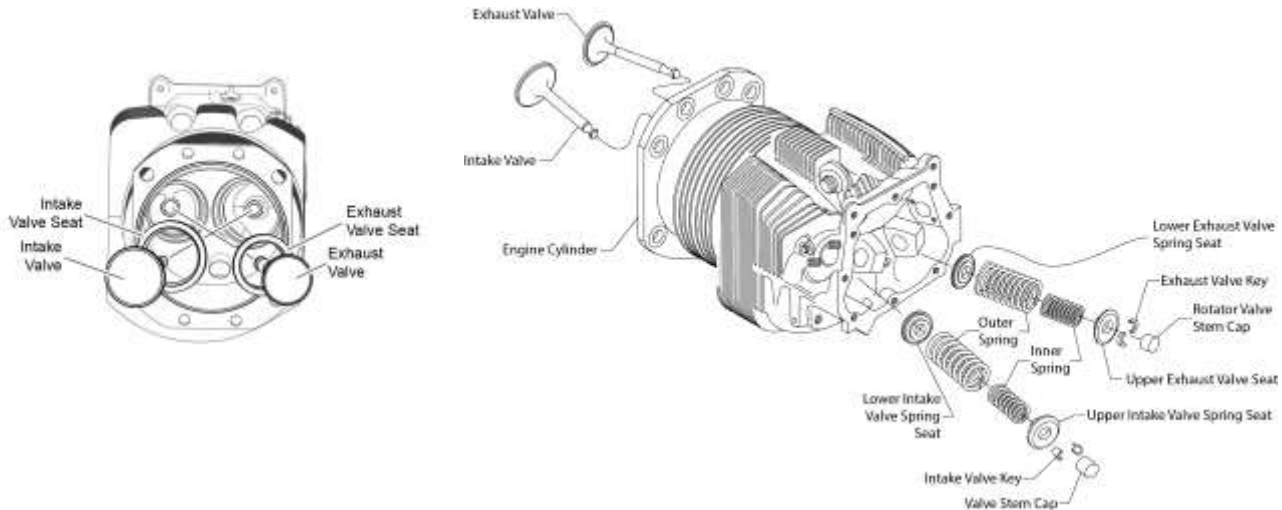

Figure 27
- (1) Remove the cylinder from the engine per the “Cylinder Removal” procedure in this chapter.
- (2) Remove the intake valve stem cap (Figure 27).
- (1) Apply lubricant identified in the latest revision of Service Instruction No. SI-1059 to the intake valve stem.
- (2) Install a serviceable intake valve in the valve guide (Figure 27), through the cylinder barrel.
- (3) Install the valve spring seats and valve springs,
- (4) Use a Valve Spring Compressor Tool (ST-25) to compress the intake valve spring and install the valve stem key.
- (5) Install the intake valve stem cap on the intake valve.
- (6) Install the cylinder on the engine per the “Cylinder Installation” procedure in this chapter.
- (2) Remove the rotator valve stem cap (Figure 27).
- (3) Use a Valve Spring Compressor Tool (ST-25) to compress the exhaust valve spring and remove the valve stem key.
- (4) Remove the valve spring seats and valve springs from the exhaust valve.
- (1) Apply lubricant identified in the latest revision of Service Instruction No. SI-1059 to the exhaust valve stem.
- (2) Install a serviceable exhaust valve in the valve guide (Figure 27), through the cylinder barrel.
- (4) Use a Valve Spring Compressor Tool (ST-25) to compress the exhaust valve spring and install the valve stem key.
- (5) Install the rotator valve stem cap on the exhaust valve.